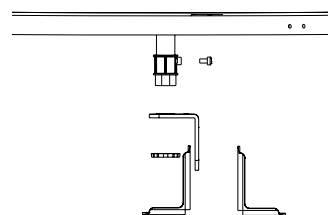

Figure 2 Place the EMT connector on the conduit
- 4.5. Completely seat the EMT connector to the end of the conduit and tighten the set screw (Figure 2).